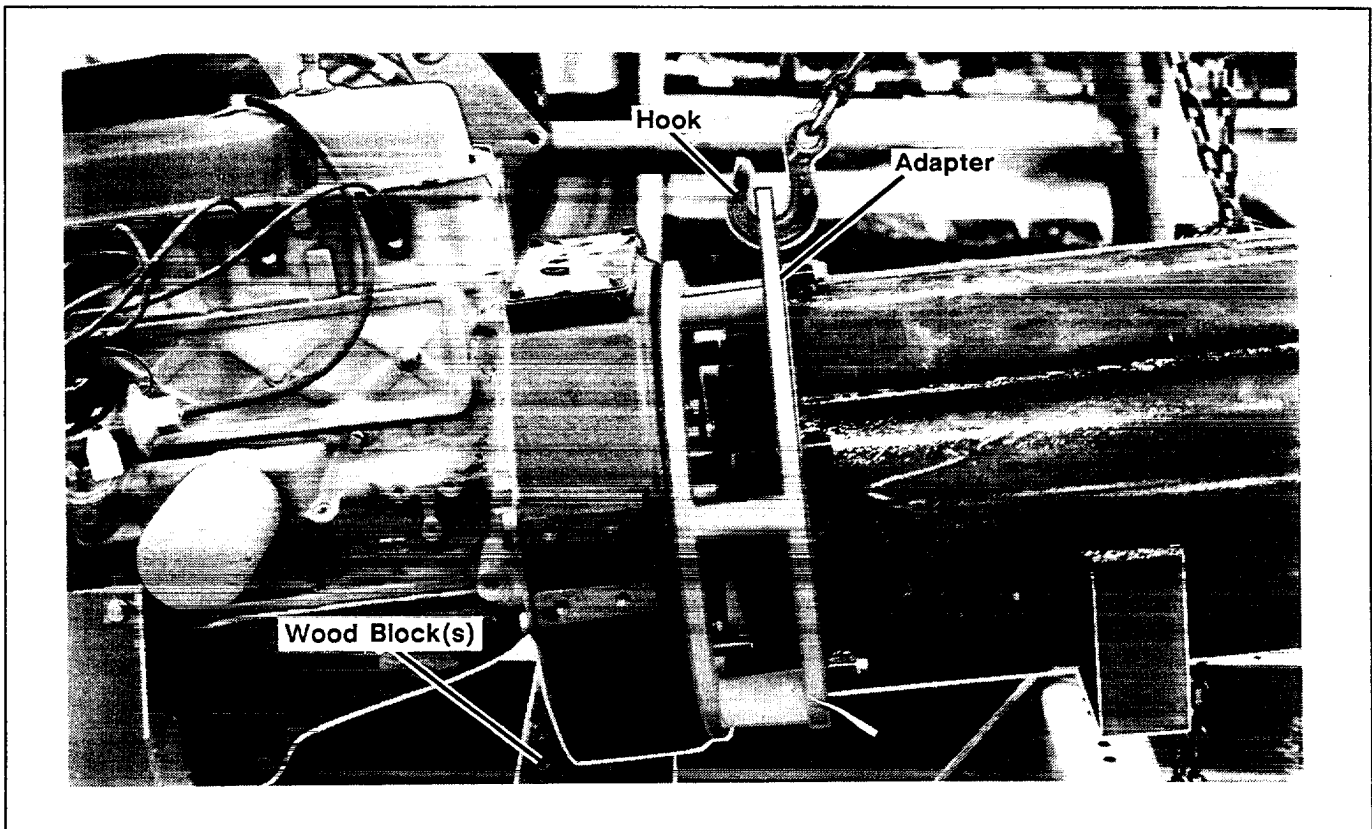

Figure 1. Hoisting Generator
3. Suspend the generator at both ends with hooks in lifting eyes. Use a hoist to raise generator end off vibro-mounts. See Figure 1.